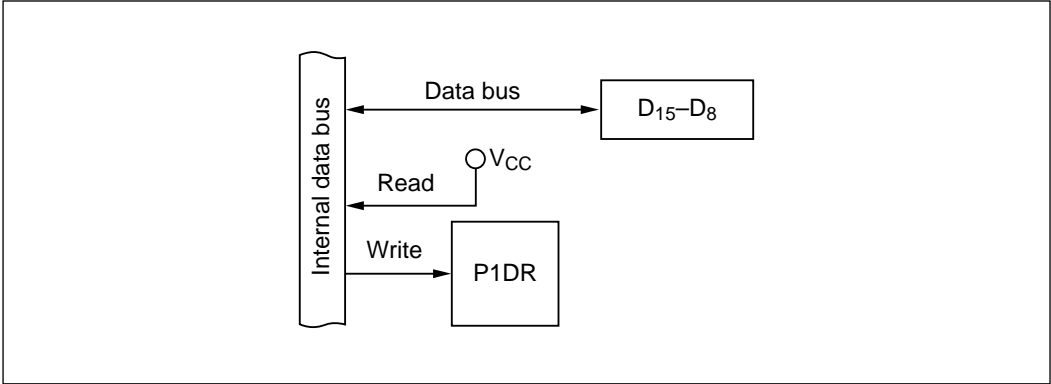

Figure 10-5 Data Bus: D_{15} to D_8 (Modes 1 to 6)
(1) Data Bus (Modes 1 to 6): Figure 10-5 shows a block diagram illustrating the data-bus function. Table 10-3 indicates register read/write data. When port 1 operates as a data bus, the values in the port 1 data register (P1DR) have no effect on the bus lines. When read, P1DR returns all 1s.